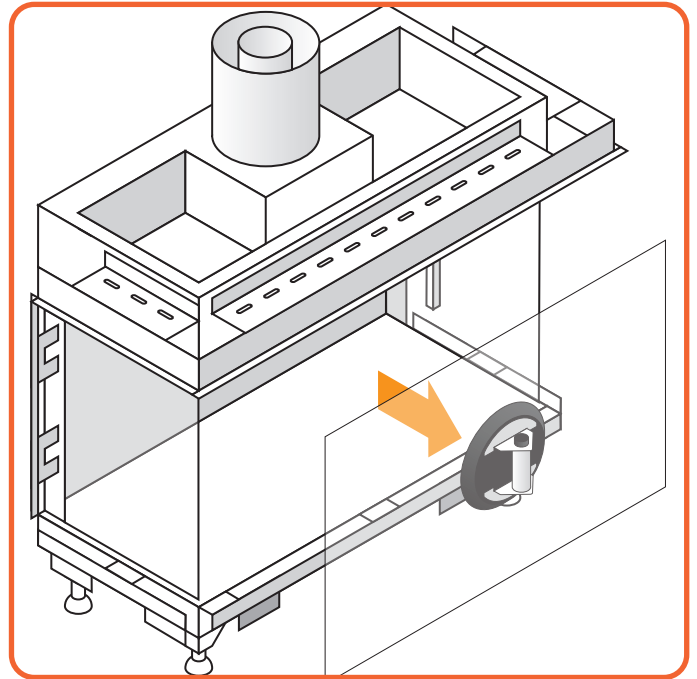

Figure 9.5 | Remove Windows
- Lift the glass out of the lower glass rail and tilt it out through the opening, as seen in Figure 9.5.